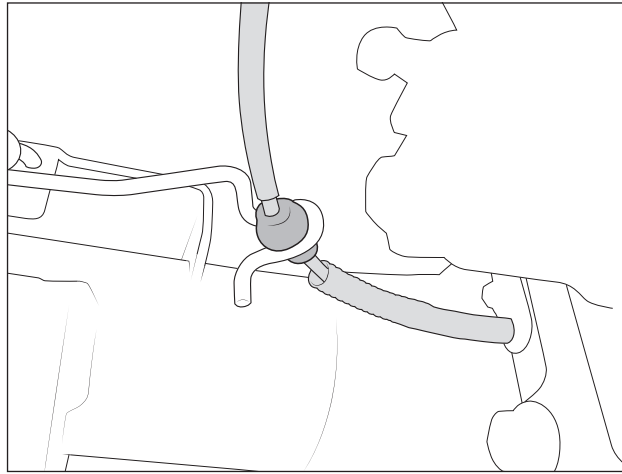

Figure 3
5. Un-clip the parking brake cable from bracket at the axle to allow movement (fig. 3).